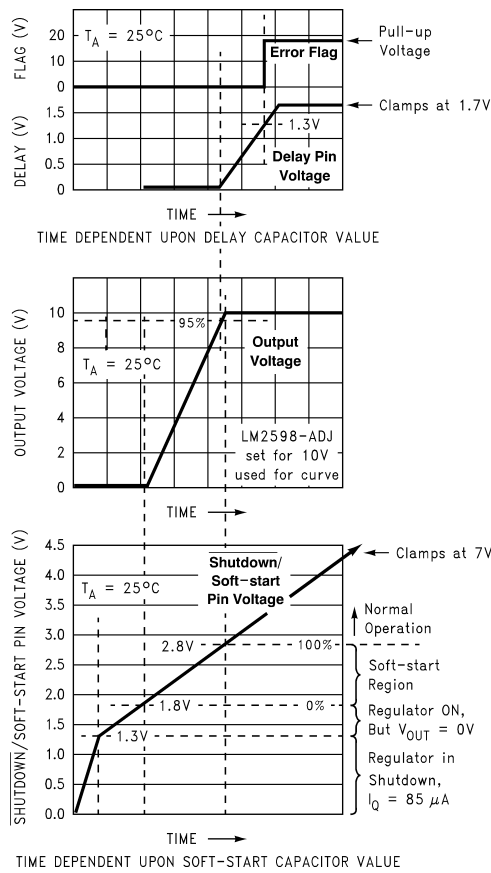
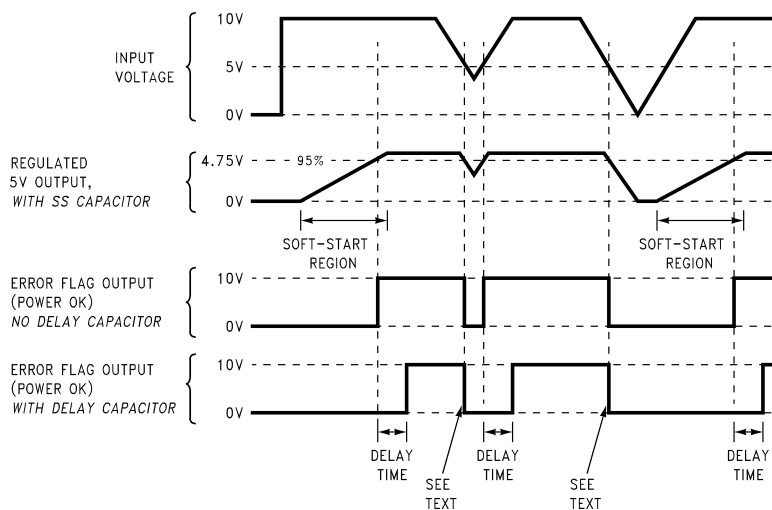

Figure 28. Soft-start, Delay, Error, Output
Figure 29. Timing Diagram for 5-V Output
A capacitor on this pin provides the regulator with a Soft-start feature (slow start-up). When the DC input voltage is first applied to the regulator, or when the Shutdown/Soft-start pin is allowed to go high, a constant current (approximately 5  $\mu$ A begins charging this capacitor). As the capacitor voltage rises, the regulator goes through four operating regions (See the bottom curve in Figure 28).
3. Soft-start region: When the  $\overline{SD/SS}$  pin voltage is between 1.8 V and 2.8 V at 25°C, the regulator is in a Soft-start condition. The switch (Pin 1) duty cycle initially starts out very low, with narrow pulses and gradually get wider as the capacitor  $\overline{SD/SS}$  pin ramps up towards 2.8 V. As the duty cycle increases, the output voltage also increases at a controlled ramp up. See the center curve in Figure 28. The input supply current requirement also starts out at a low level for the narrow pulses and ramp up in a controlled manner. This is a very useful feature in some switcher topologies that require large start-up currents (such as the inverting configuration) which can load down the input power supply.
Note: The lower curve shown in Figure 28 shows the Soft-start region from 0% to 100%. This is not the duty cycle percentage, but the output voltage percentage. Also, the Soft-start voltage range has a negative temperature coefficient associated with it.
Provides delay for the error flag output. See the upper curve in Figure 28, and also refer to timing diagrams in Figure 29. A capacitor on this pin provides a time delay between the time the regulated output voltage (when it is increasing in value) reaches 95% of the nominal output voltage, and the time the error flag output goes high. A 3- $\mu\text{A}$  constant current from the delay pin charges the delay capacitor resulting in a voltage ramp. When this voltage reaches a threshold of approximately 1.3 V, the open collector error flag output (or power OK) goes high. This signal can be used to indicate that the regulated output has reached the correct voltage and has stabilized.